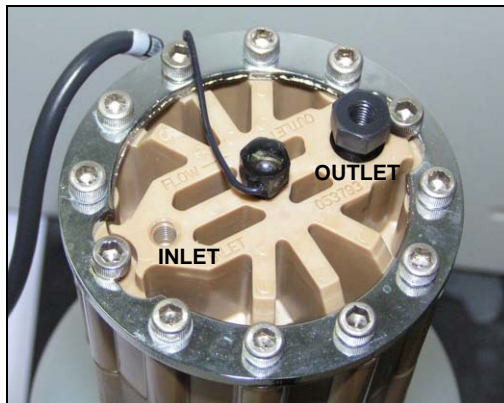

Figure 42. Dionex EluGen Cartridge Inlet and Outlet Ports
1. Orient the Dionex EluGen cartridge with the fittings facing up and remove the plugs from the Dionex EluGen cartridge **INLET** and **OUTLET** ports (see Figure 42).